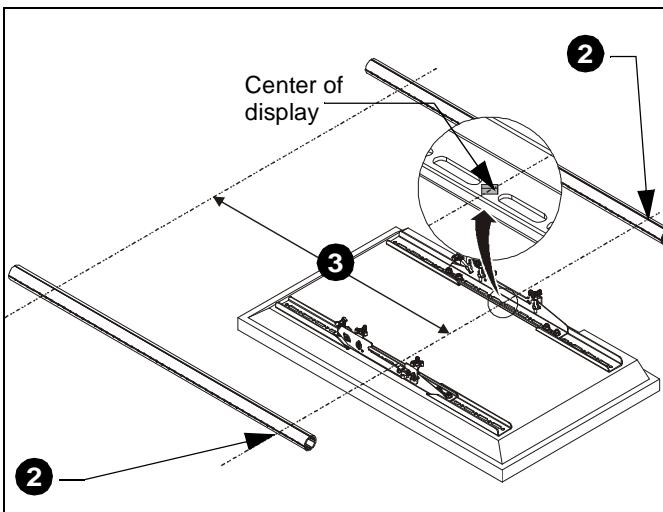

**Figure 4**
1. Lay columns (FF) on floor and carefully place display next to columns. (See Figure 4) and (See Figure 5)
3. Measure one screen height up on the columns from the first mark. (See Figure 4) and (See Figure 5)
4. Make a mark at upper spot on both columns. (See Figure 4)
5. Slide an array head (U) onto column up to the highest mark on the column.